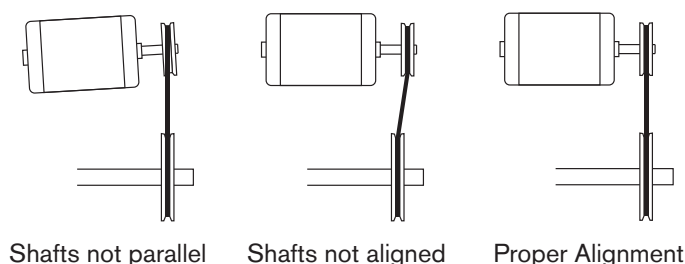

Figure 2
If the user is supplying the sheaves and/or belts, it is their responsibility to make the correct component selections for the specific operating conditions. Their selection must also **not allow** the blower to exceed its maximum safe speed or hub load. If you do not know the maximum safe speed or hub load for this blower, **do not** make any drive selection without first consulting Cincinnati Fan or the sales office for your area. Timing belts should never be used on blowers. If you are replacing belts and/or sheaves, checking belt tension or proper alignment, see **Figure 2** and **Assembly Steps**. Sheave set screws or taper-lock bushing bolts should be tightened to the torque values as indicated in **Tables 1 and 2**.
The blower and motor shafts must be parallel and the sheaves must be in line with each other. See **Figure 2**.
6. Check the blower and motor shafts to make sure they are parallel and aligned as shown in **Figure 2**.